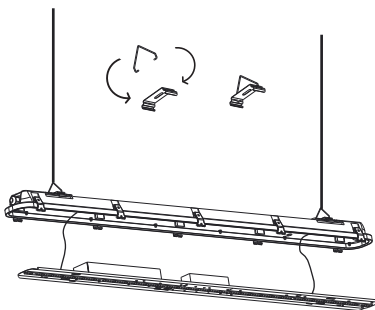

Figure 4
4. **For Chain or Cable Mount:** Attach the mounting brackets to the fixture housing until the mounting brackets snap into place. The mounting brackets should hold the fixture firmly in place. If not, assess the mounting brackets and troubleshoot. Attach triangle hangers (provided with fixture) through the side holes of the mounting brackets and attach chain or cable (ordered separately). (Figure 4)